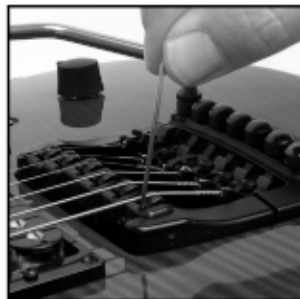

Figure 6
- Using the Hex wrench, adjust the saddle set screws up and down to desired action height. (Figure 6)